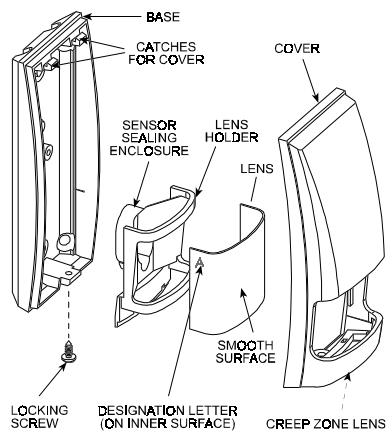

Figure 2. Cover and Lens Assembly
To change a lens, refer to Figure 2 and proceed as follows:
- Insert the new lens with the smooth surface outside and the lens designation letter positioned as in Fig. 2. Push the lens in until it snaps into place.